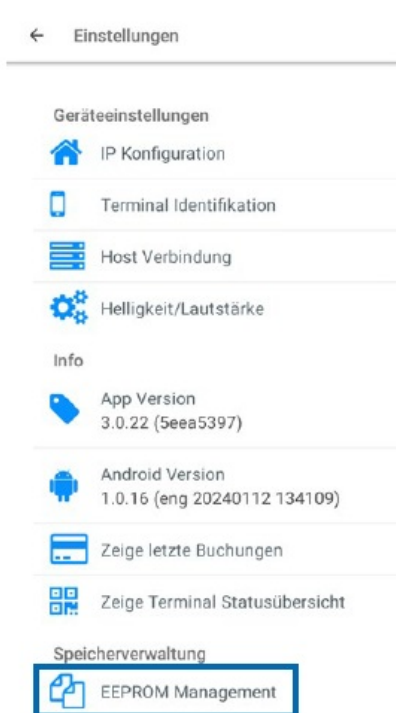

Fig. 11
2. Select “Überschreiben” to overwrite the settings of the wall module with the new settings defined in the main module (Fig. 11).
Optionally, you can use the “EEPROM Management” function (Fig. 11) to synchronize the settings on the main module and on the wall module. To do so, proceed as follows
1. In the configuration menu, select the submenu “EEPROM Management” (Fig. 11).